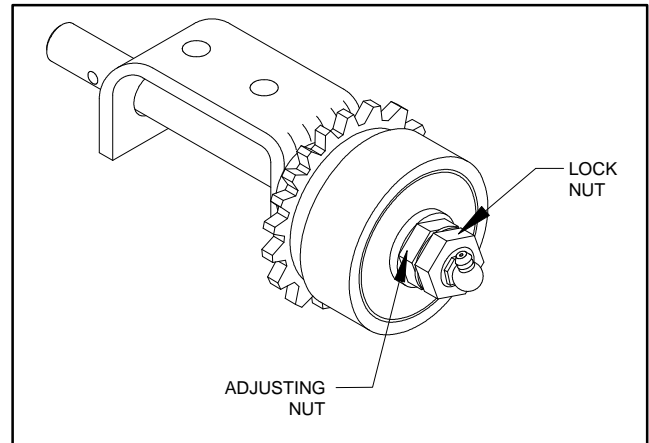

FIGURE 4-11: TORQUE LIMIT CLUTCH ADJUSTMENT
6. Refer to **Figure 4-11**. Adjust the torque limit clutch if required.